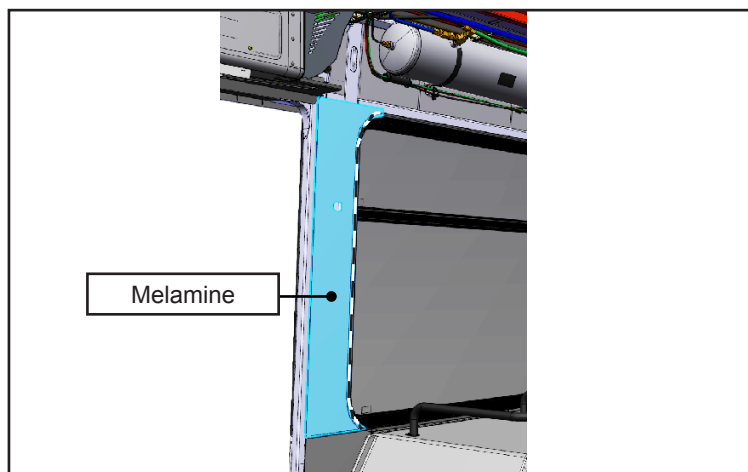

Figure 6 - Remove Melamine
- 1.15. Remove the melamine using a utility knife to cut the double face tape between the wall and the melamine. The melamine will be reinstalled after the repair, be careful to not damage it. See Figure 6.